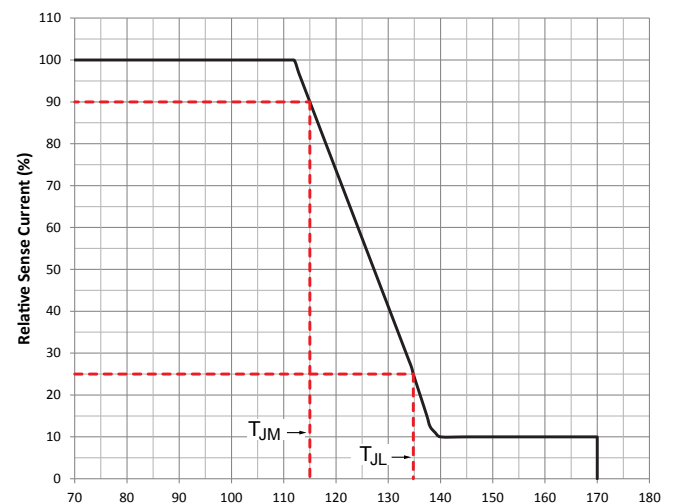

Figure 2. Temperature monitor current reduction.
**Temperature Monitor.** A temperature monitor function, included in the A6264, reduces the LED current as the silicon junction temperature of the A6264 increases (see figure 2). By